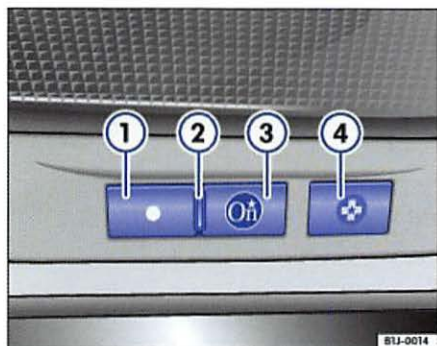

Fig. 2 Blue OnStar button
⇒ fig. 2 ③ located on the headliner panel. A prerecorded message will be played, which explains OnStar services and activation.